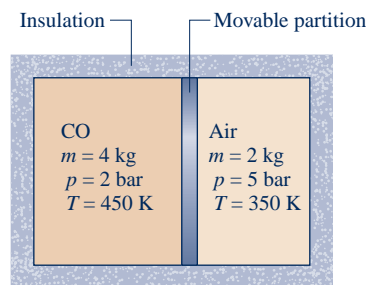

Fig. P3.129
3.129 Two kilograms of air, initially at 5 bar, 350 K and 4 kg of carbon monoxide (CO) initially at 2 bar, 450 K are confined to opposite sides of a rigid, well-insulated container by a partition, as shown in Fig. P3.129. The partition is free to move and allows conduction from one gas to the other without energy storage in the partition itself. The air and CO each behave as ideal gases with constant specific heat ratio, $k = 1.395$. Determine at equilibrium (a) the temperature, in K, (b) the pressure, in bar, and (c) the volume occupied by each gas, in m³.